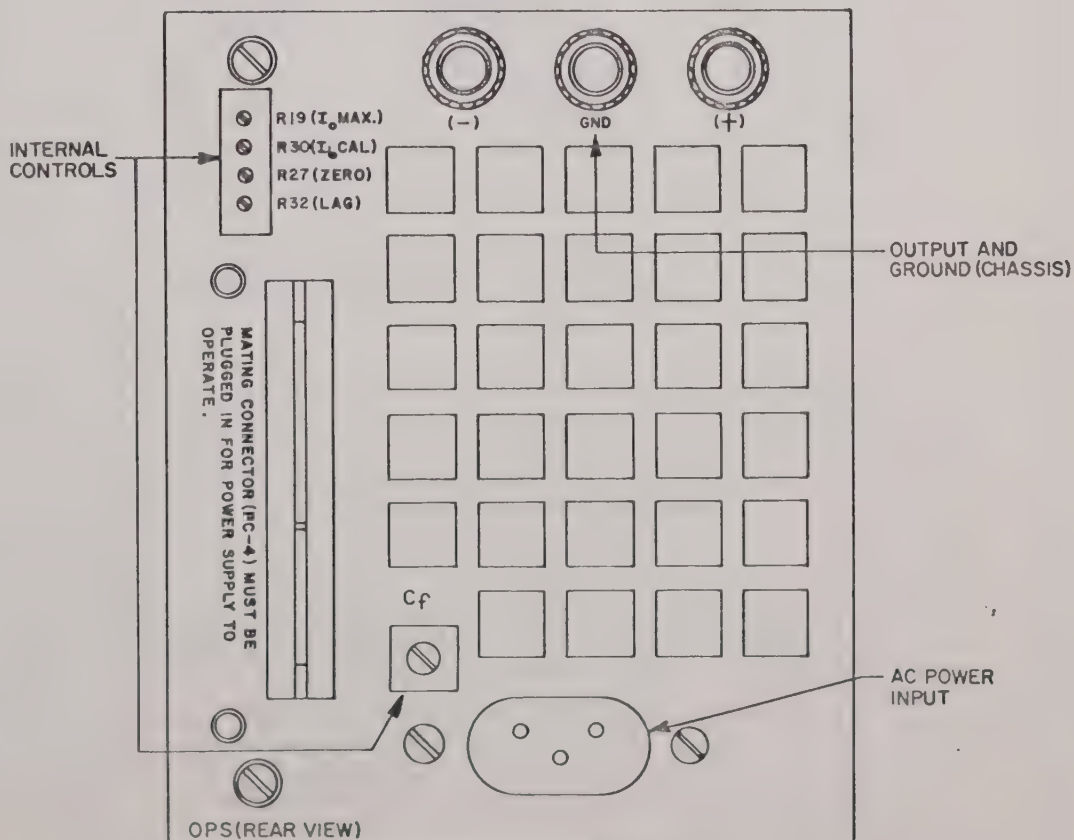

FIG. 2-1 LOCATION OF INTERNAL CONTROLS.
- INTERNAL CALIBRATION CONTROLS: Refer to FIG. 2-1 and Table 2-1.
NOTE: ALL CALIBRATION CONTROLS ARE ACCESSIBLE THROUGH THE REAR COVER OF THE OPS. (REFER TO SECTION II, FIG. 2-1.)